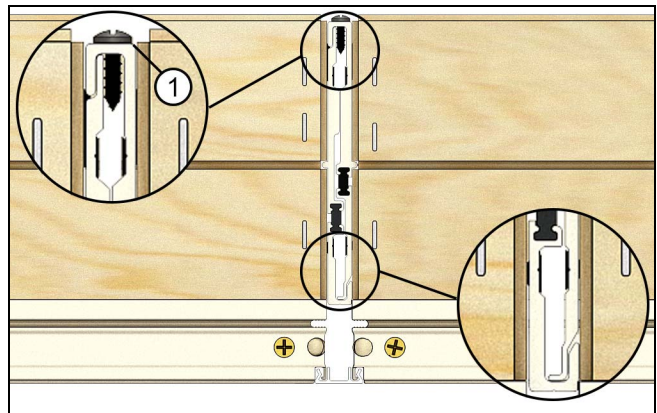

Figure 21
1. Set the units on a flat surface interior side up. Hook the MRF pieces together. Align the frames so they are flush and the ends are even. You may need to seat the assembly together with a rubber mallet. Secure the MRF with #8 x 5/8" undercut head screws through the pre-drilled interior face of the beige component. See Figure 21.